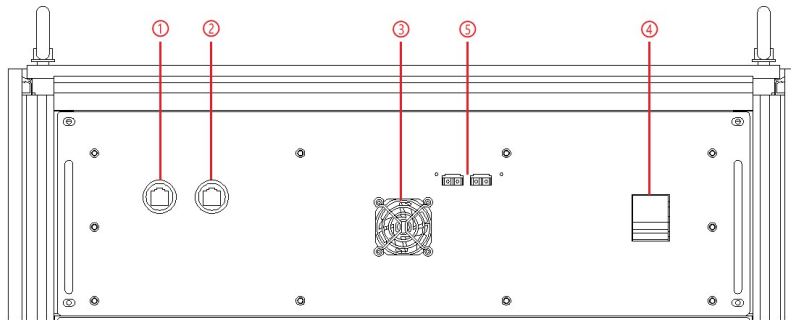

Figure 3-10 Front panel of control module
Open the cabinet door and power off the control unit switch (Figure 3-10④).